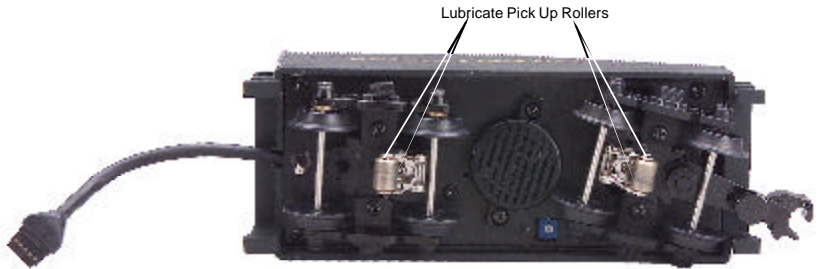

Figure 2. Lubrication Points on the Tender
3. You should lubricate all side rods and linkage components and pickup rollers to prevent them from squeaking. Use light household oil and follow the lubrication points marked “L” in Figures 2 and 3 on pg. 8. Do not over-oil. Use only a drop or two on each pivot point.
You should regularly lubricate all side rods and linkage components and pickup rollers to prevent them from squeaking. Use light household oil and follow the lubrication points marked “L” in Figures 2 and 3. Do not over oil. Use only a drop or two on each pivot point.